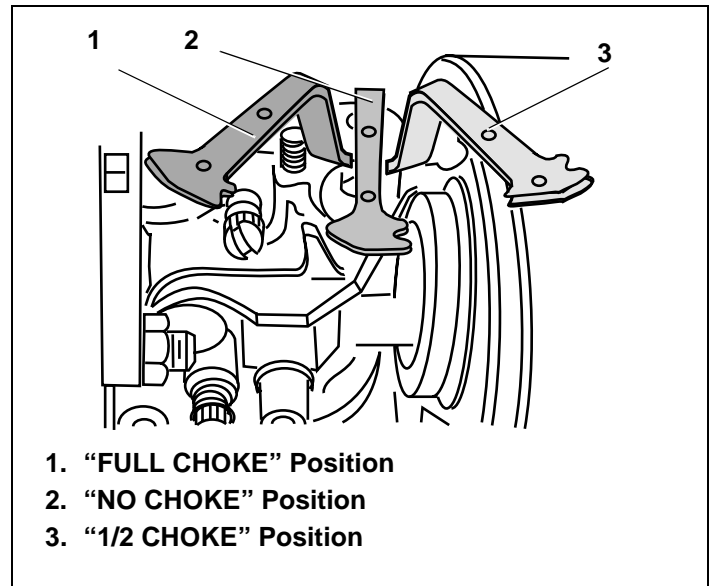

Figure 26. Horizontal Mounted Choke Control
- a. Momentarily move choke control to "1/2 CHOKE" position until engine runs smoothly. See Figures 26 and 27.